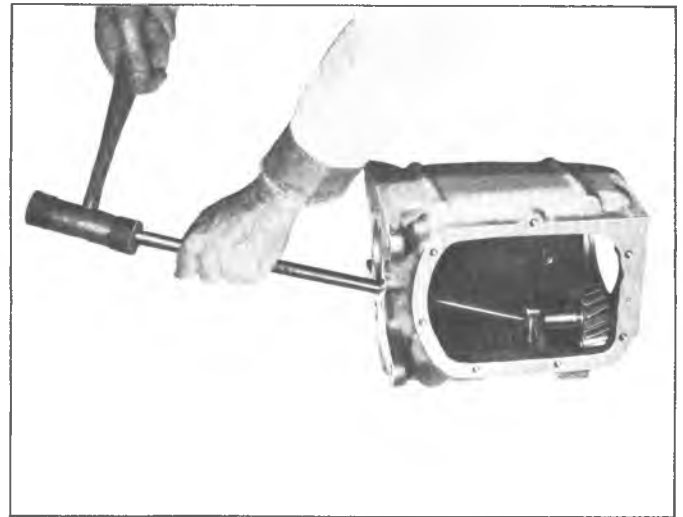

Fig. 3A--Removing Reverse Idler Shaft
9. Use a long drift or punch through the front bearing case bore and drive the reverse idler shaft and woodruff key through the rear of the case (fig. 3A).